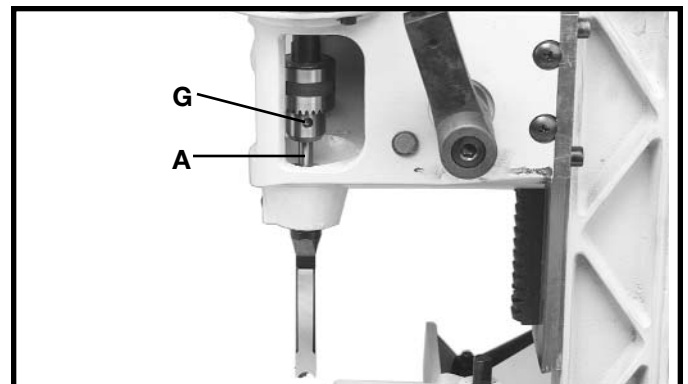

Fig. 13
3. Push bit (A) Fig. 13, up through chisel and into chuck (G) as far as it will go, and lock bit in chuck using chuck key supplied.